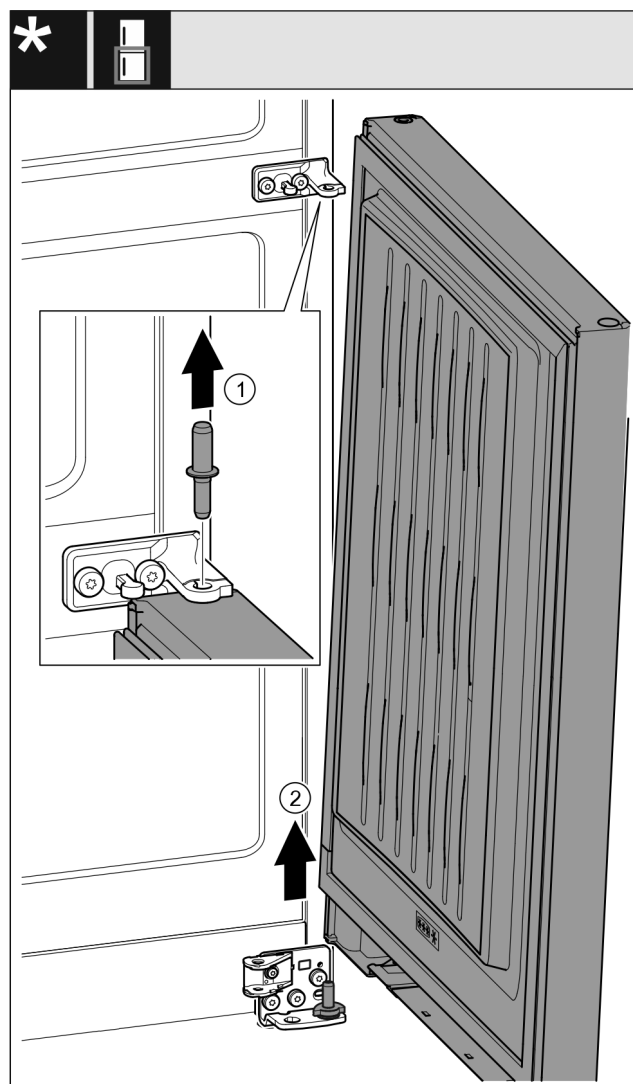

Fig. 26 \*
- Pull out the bolt Fig. 26 (1) upwards.\*
- Swing out the door Fig. 26 (2), pull it upwards and set it aside.\*